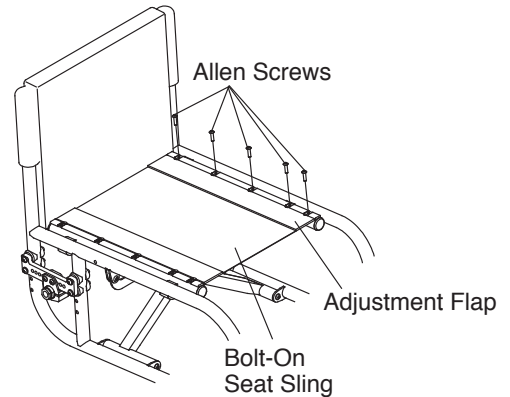

Figure 41
2. Loosen, but do not remove, the Allen Screws on the side of the seat upholstery where the "hook & loop" adjustment flap is located on the underside of the seat upholstery. See Figure 41.